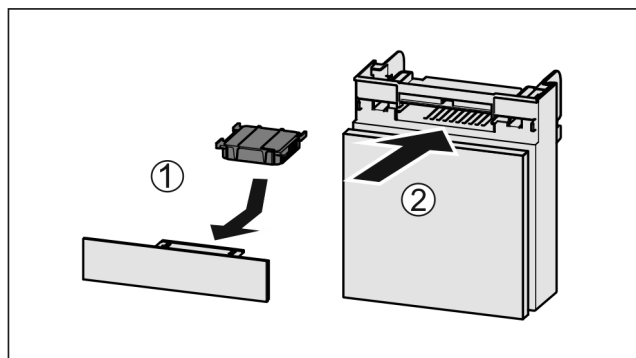

Fig. 37
- Insert the carbon filter as shown in the diagram Fig. 37 (1).
- Push the compartment in Fig. 37 (2).